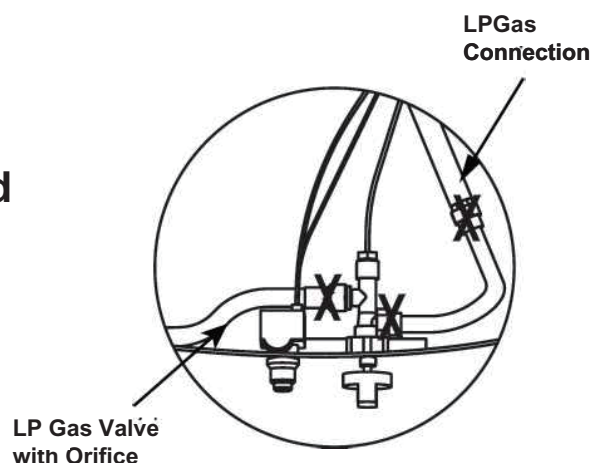

Figure 1
4. Please refer to diagram for proper installation (Figures 1 and 2).
7. Spoon several drops of solution or use a squirt bottle, at all “X” locations (Figures 1 and 2).